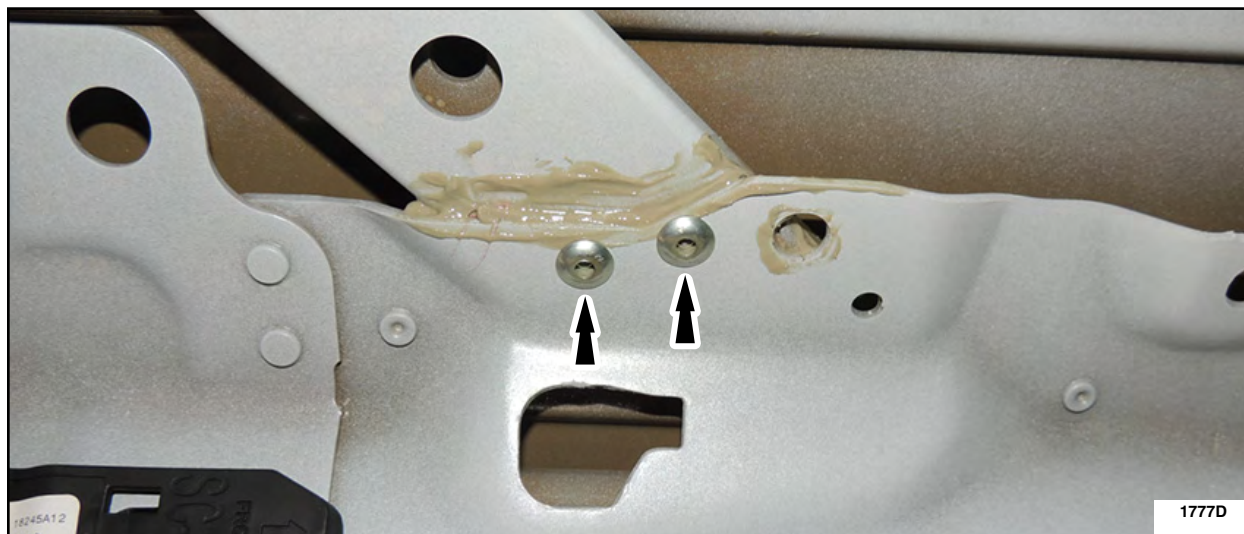

FIGURE 6
8. Using a pneumatic rivet gun, install two rivets into the RH and LH roof K-brace. See Figure 6.